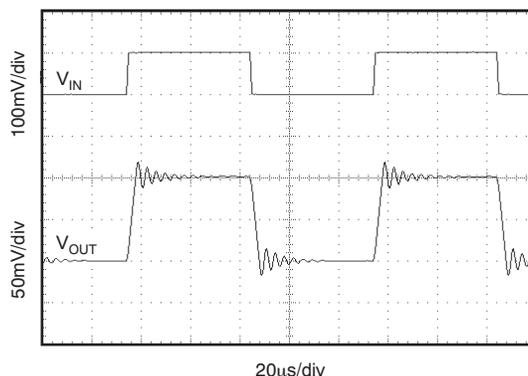
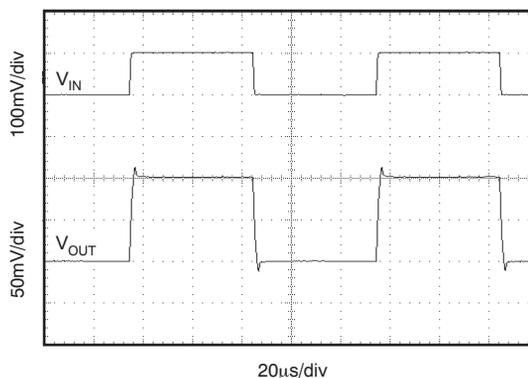

Figure 44. OPA827 Driving 2.2-µF Ceramic Capacitor
Figure 45. OPA827 Driving 2.2-µF Tantalum Capacitor
The combination of gain bandwidth product (GBW) and near constant open-loop output impedance (ZO) over frequency gives the OPA827 the ability to drive large capacitive loads. Figure 44 shows the OPA827 connected in a buffer configuration (G = +1) while driving a 2.2-μF ceramic capacitor (with an ESR value of approximately 0 Ω). The small overshoot and fast settling time are results of good phase margin. This feature provides superior performance compared to the competition. Figure 44 and Figure 45 were taken without any resistive load in parallel to shorten the ringing time.
In Figure 45, the OPA827 is driving a 2.2-μF tantalum capacitor. A relatively small ESR that is internal to the capacitor additionally improves phase margin and provides an output waveform with no ringing and minimal overshoot. Figure 45 shows a stable system that can be used in almost any application.